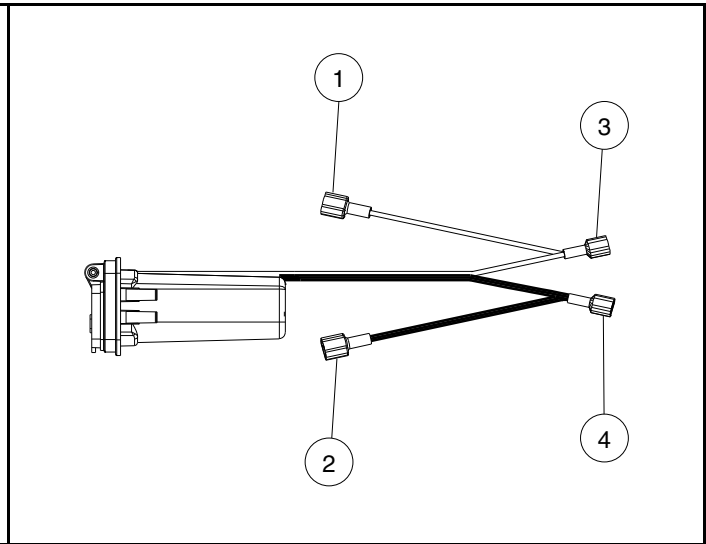

Figure 13-6 USB Port Installation
3. Connect the red instrument panel wire to the red USB port wire (1) (**Figure 13-6, Page 13-4**).
4. Connect the black instrument panel wire to the black USB port wire (2).
5. **Vehicles with a battery condition indicator:** Connect the red USB wire (3) to the battery condition indicator positive terminal. Connect the black USB wire (4) to the battery condition indicator negative terminal.
6. **Vehicles without a battery condition indicator:** Attach the extra wires (3)(4) to the instrument panel harness with a plastic tie.